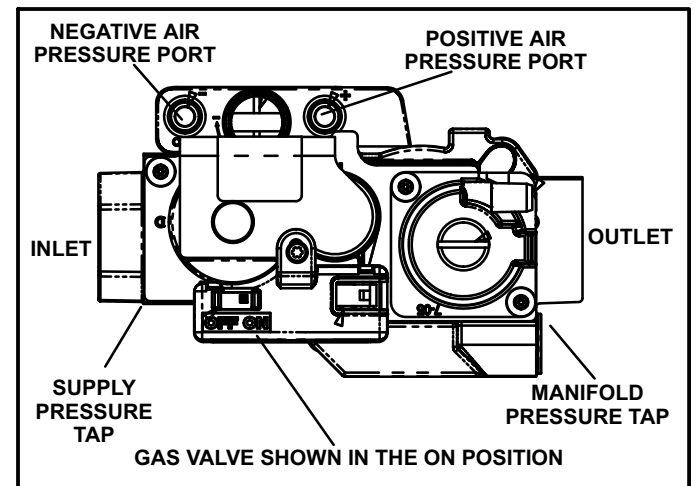

FIGURE 49
Gas Valve Operation (Figure 49)
- 6 - Move the gas valve switch to the **OFF** position. See figure 49.
- 8 - Move gas valve switch to the **ON** position. See figure 49. Do not force.
When testing supply gas pressure, connect test gauge to supply pressure tap on the gas valve. See figure 49. Check gas line pressure with unit firing at maximum rate. Low pressure may result in erratic operation or underfire. High pressure can result in permanent damage to gas valve or overfire. See table 27 for operating pressure at unit gas connection (line).